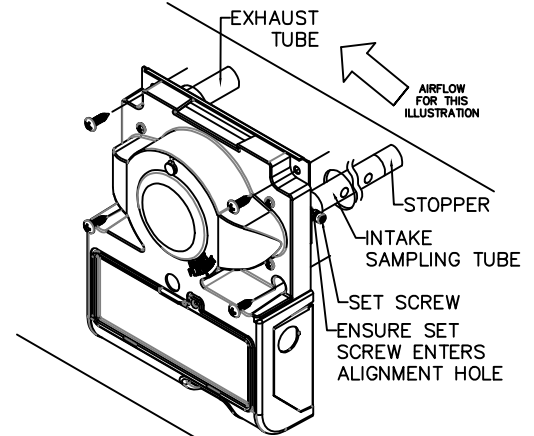

FIGURE 2. DH-101 MOUNTING
The Duct Detectors are designed for use in ducts where the air velocities are from 100 to 4000 feet per minute. See Figure 2 for sampling tube orientation to air flow direction.
C. SAMPLING TUBE ASSEMBLY (See Figure 2)
The sampling tubes may be ordered to a desired length or ordered in one of 3 standard lengths and cut per requirements. The intake sampling tube consists of a piece of steel piping with a series of holes drilled the entire length of the tube and should extend the entire width of the duct. The holes must be facing into the air flow (see Figure 2). The exhaust tube consists of a piece of steel piping approximately 7-1/2" long.
D. MOUNT SAMPLING TUBES (See Figure 2)
1. Sampling tube connectors are equipped with set screws, which allow the tubes to be mounted only in directions shown in Figure 2. Establish proper orientation considering airflow direction.